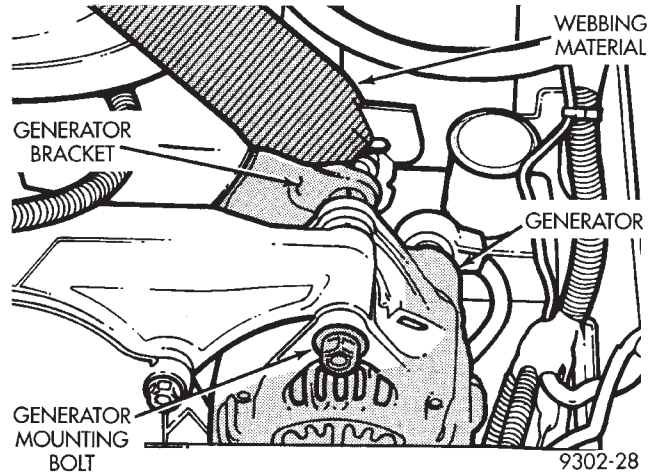

Fig. 43 Engine Support Attachment To Generator Bracket
(3) Remove generator to generator mounting bracket attaching nut and bolt (Fig. 43). Install webbing material hook on generator mounting bolt, re-install and tighten original nut and bolt (Fig. 43).